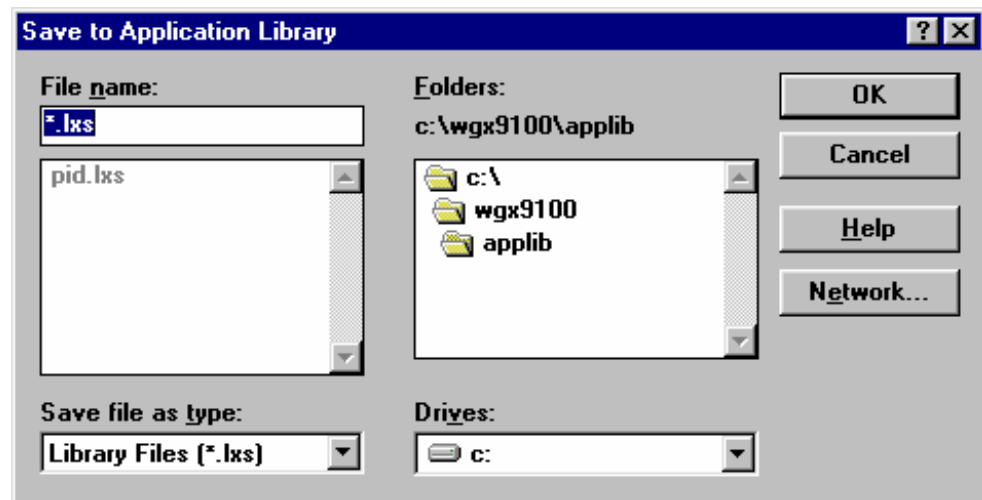

Figure 8-8: Save to Application Dialog Box
2. On the File menu, click Save to Library. The Save to Application Library dialog box appears (Figure 8-8).